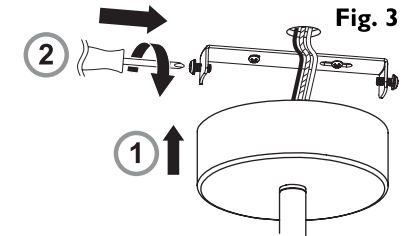

Fig. 3
This product has "L" shaped fixing slots to allow easy fixing to the ceiling strap. Referring to Fig. 1, locate the "L" slots (C) around the small screws (B) on the ceiling strap (A). Rotate the ceiling cover to attach the product to the strap. Tighten the screws to secure (Fig. 3 - 2). Take care not to trap any wiring.